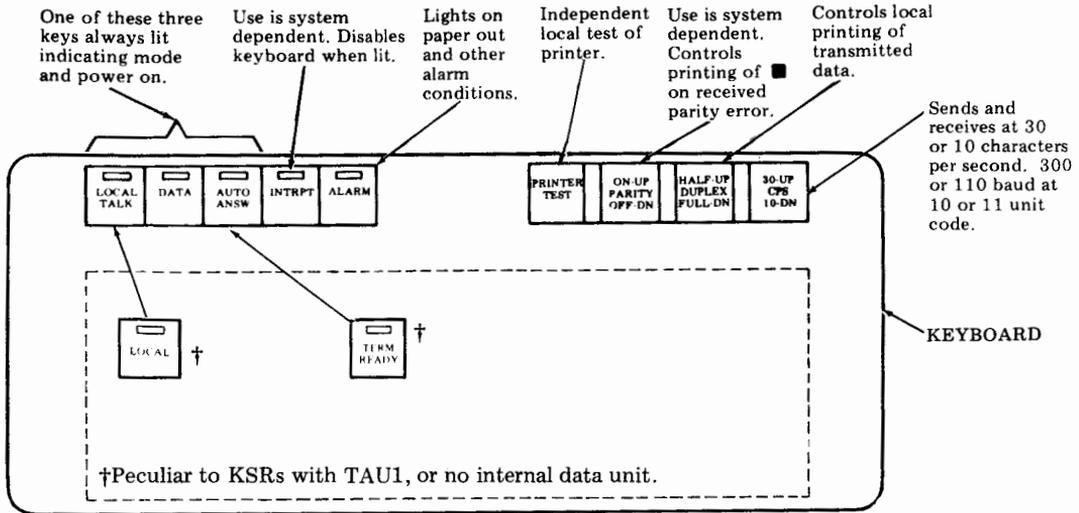

Fig. 3—KSR Operational Controls and Status Indicators
2.15 The operational controls and status indicators for the KSRs are briefly described in Fig. 3.